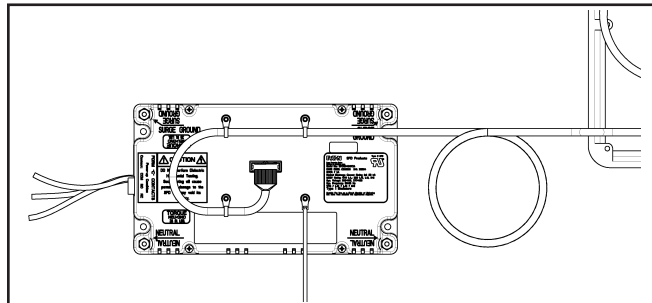

Figure 16. RDP to SPD Connection
2. Connect the RDP cable to the SPD. Use tie wraps (already on the SPD) to secure the cable to the SPD. See Figure 16. Cable can be routed as a right or left dress.